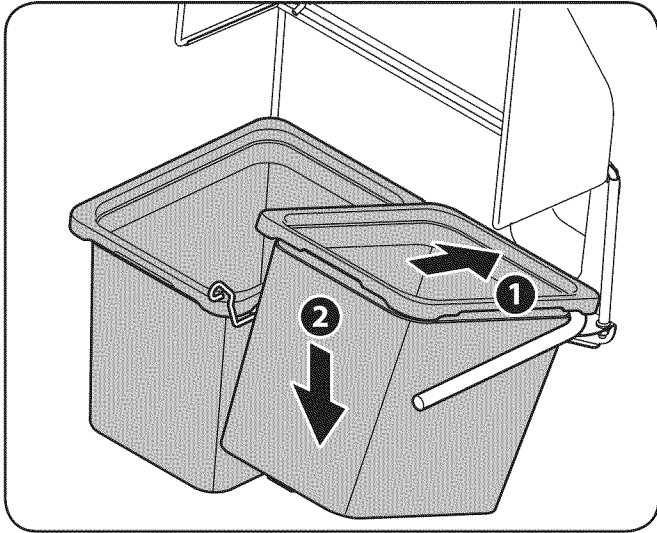

Figure 5
6. Install the bags onto the mounting frame as shown in Figure 5. Simply place the leading edge of the bag onto the front frame rail, then rock the bag backwards and down into place. Repeat for the second bag.